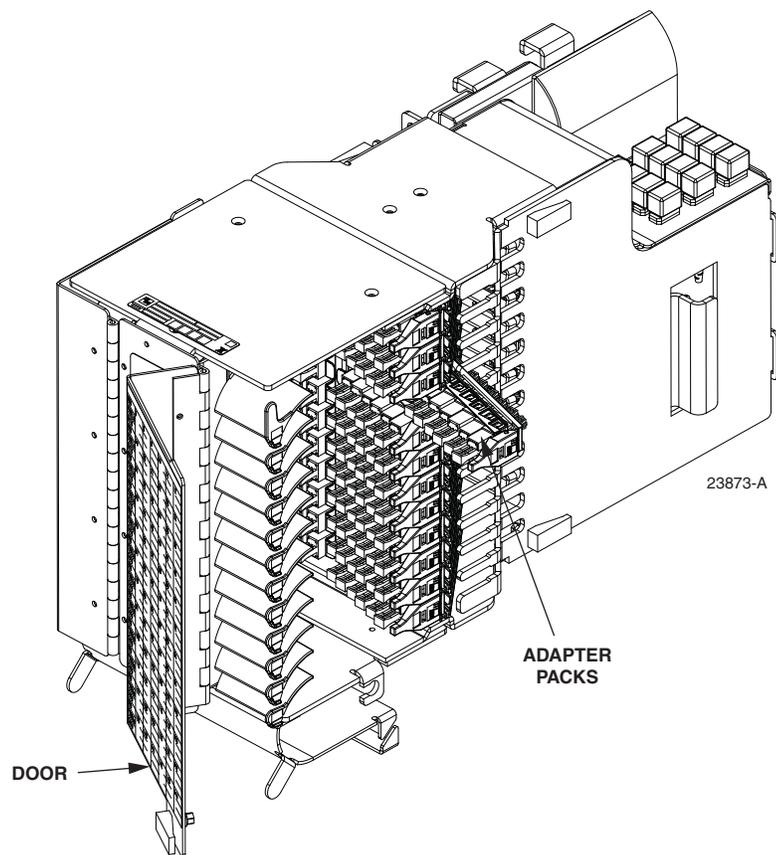

Figure 14. Sliding Out an Adapter Pack
1. To ready the FTB for connecting a patch cord, open the door and slide out the desired adapter pack as shown in Figure 14.